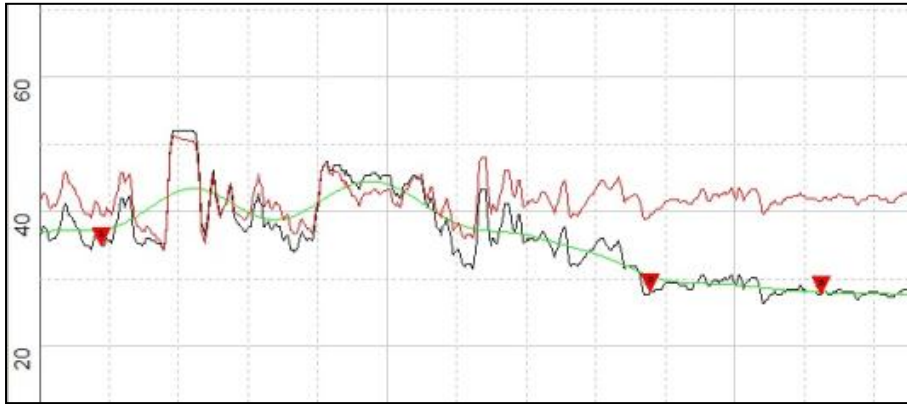

Fig. 74. Waviness profile correction
3. Observe the *2D Line Profile* graph as the slider moves. A green line is drawn through the original data to show the underlying surface, as calculated using the amount of waviness correction selected by the slider position. The underlying surface height is subtracted from the original data to produce a corrected profile, which is drawn in red. This is shown in Fig. 74.